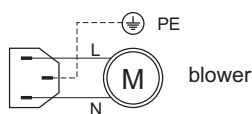

Fig. 4 Connection diagram of the blower cable
2. Install all necessary sensors (and reed relay for the piston feeder) acc. to Fig.4 and Fig.6.